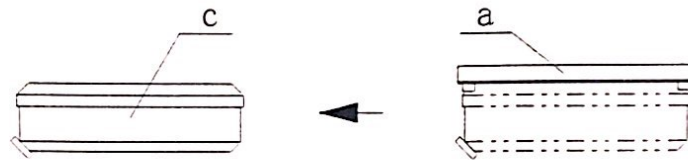

Figure 11
2. Second Step (See Figure 11):